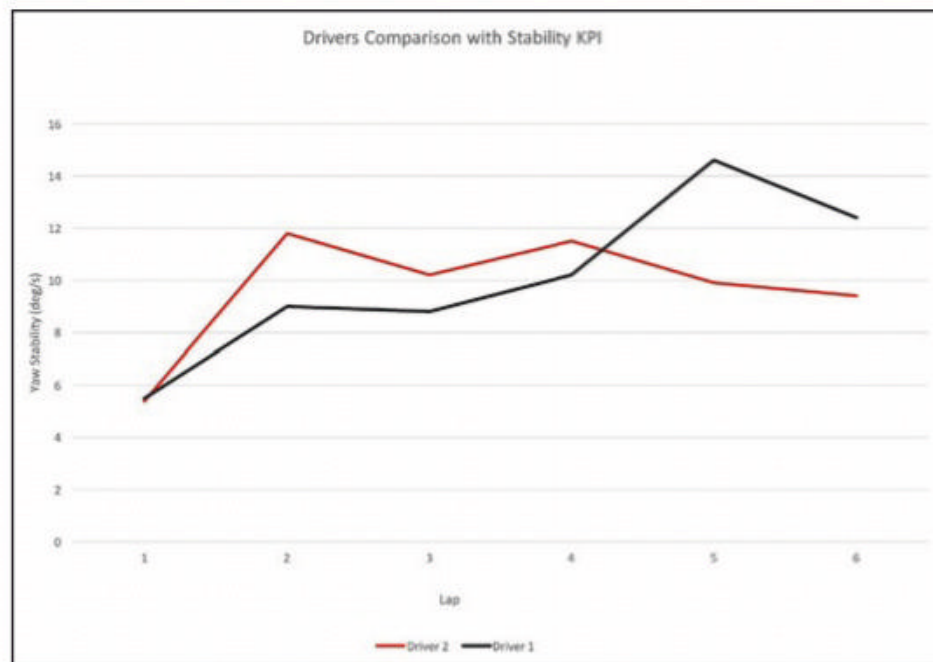

Figure 3: Driver stability trend across six laps. Black trace shows more stability later on
**Figures 3 and 4** refer to the vehicle stability and the time that the driver locked up the front wheels. With the six-lap trends we see that the partial lock-up did not have a strong correlation to the stability KPI, especially during the earlier portions of the session. We do see that the black trace did become more stable later in the session, but given the large partial lock-up time during the third lap we can assume that after this the black-trace driver decreased the braking aggression. The lack of correlation to lap progression indicates that the stability issue was set-up related, probably not temperature related. To aid in the determination of which element to choose, we can go beyond standard practices of using driver feedback and data and introduce simulation tools to give a better idea of the magnitude of change.